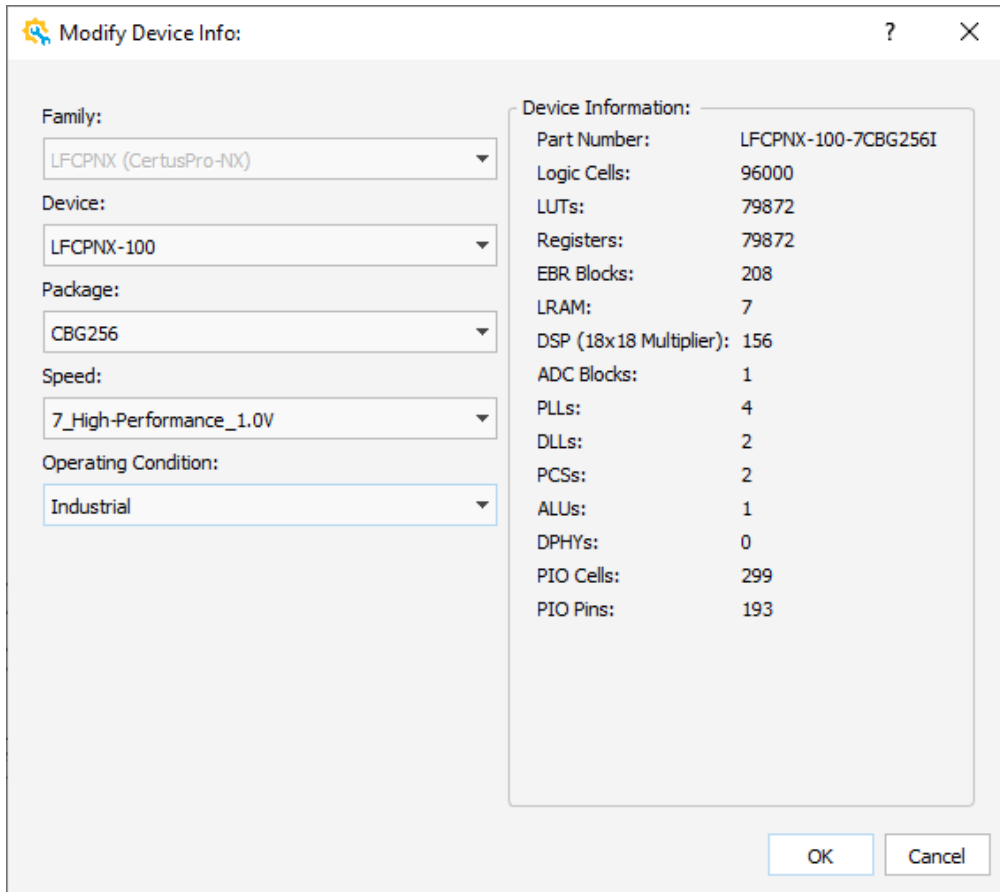

Figure 2.36 Modify Device Info
1. Double click the device part number from the Design View (Figure 2.35), the Modify Device Info wizard pops up (Figure 2.36).
- Use the drop-down menu to choose the desired device in **Device** filed in the Modify Device Info wizard (Figure 2.36). Use the drop-down menu to change the package, speed and operating condition in **Package, Speed, Operating Condition** filed.